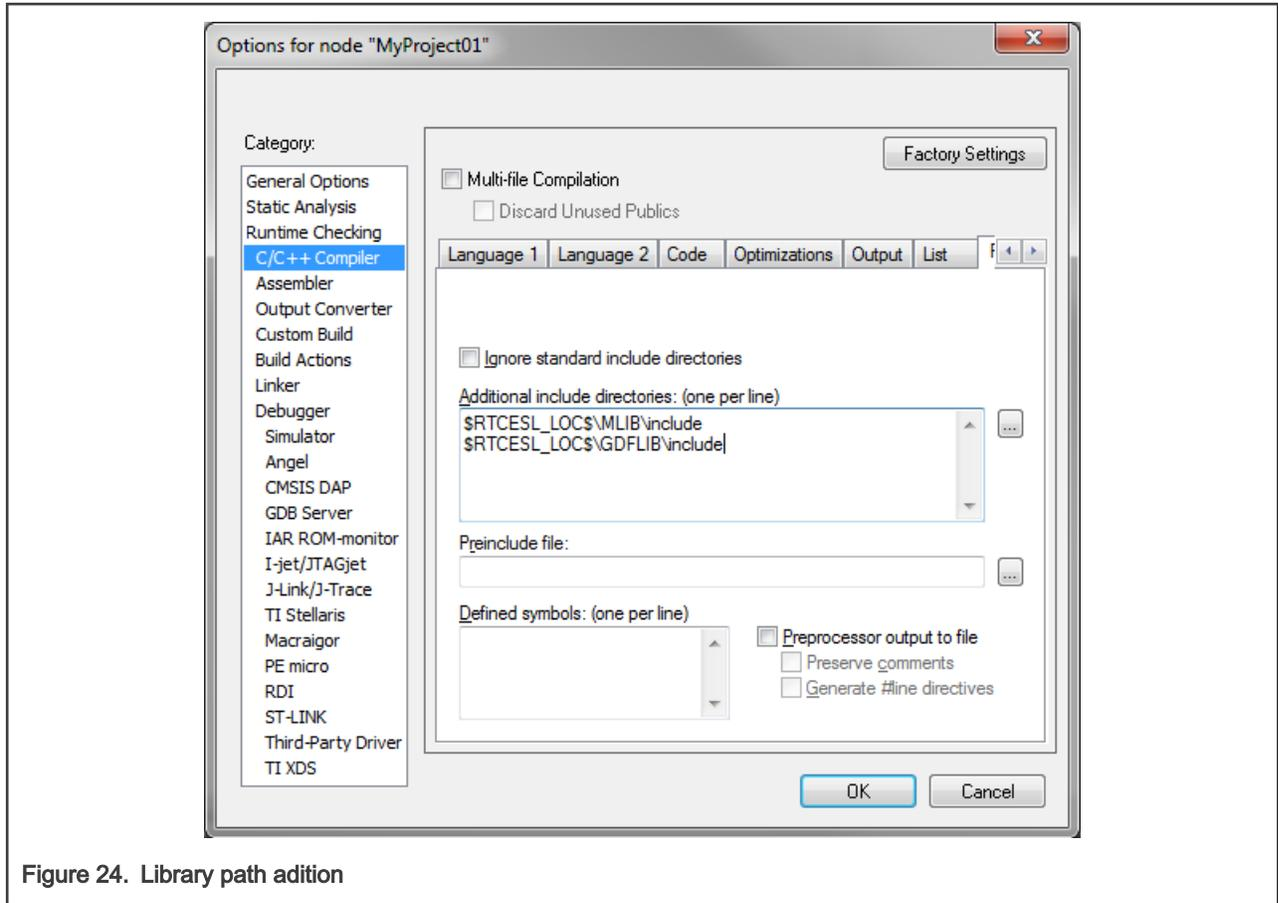

Figure 24. Library path addition
- Click OK in the main dialog. See Figure 24.